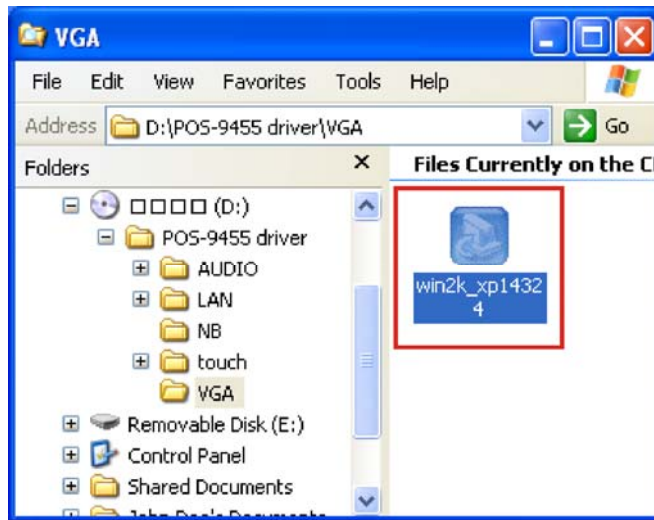

Figure 6-7: Graphics Setup Icon
Step 1: Browse to the **VGA** folder on the installation CD (Figure 6-7).
Step 2: Double-click the setup icon to start the graphics driver installation (Figure 6-7).